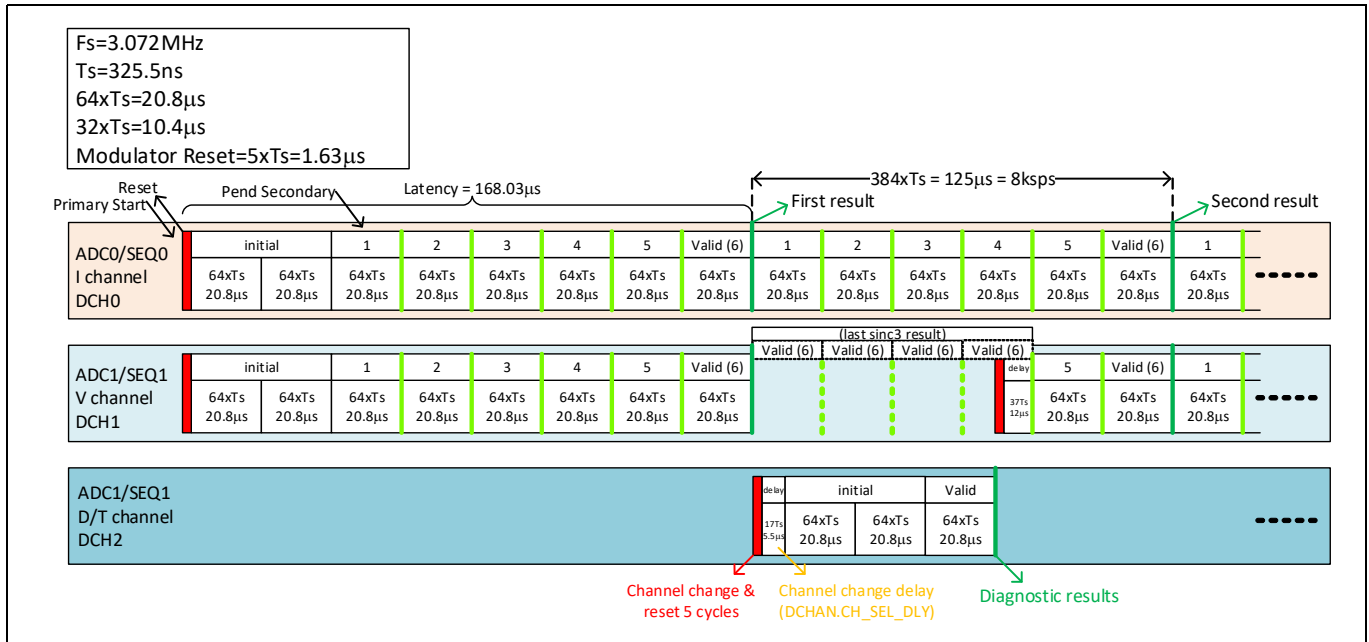

Figure 22-33. Sequencer timing
Figure 22-33 is a use case example that shows the sequencer timing when digital channel 0 (dch0) is assigned to sequencer 0 (seq0) and dch1 and dch2 are assigned to seq1. dch0 and dch1 are configured as primary channels with decimation ratios (DR) of 64 and rate reducer (DR2) of 6, for 8 ksps sample rate. dch2 is configured as a secondary channel and has a decimation ratios (DR) of 64 and rate reducer (DR2) of 1. All digital channel decimators are in the sinc3 mode.